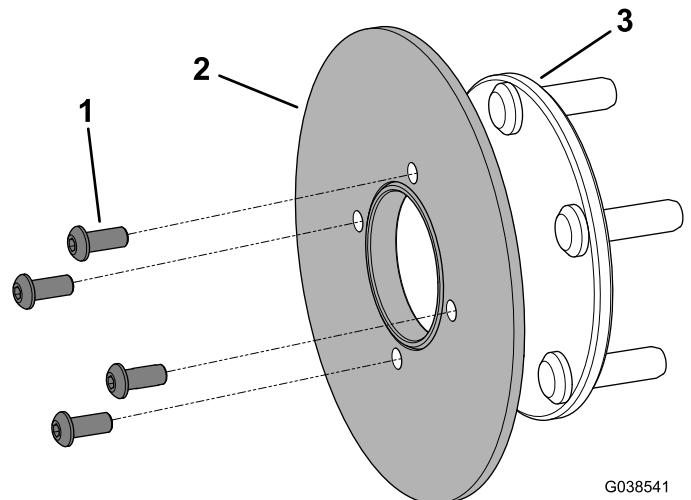

Figure 7
- Remove the 4 hex-socket bolts (5/16 x 3/4 inch), and remove the rotor from the hub (Figure 7).
6. Install the rotor to the hub using 4 hex-socket bolts (5/16 x 3/4 inch) as shown in Figure 7.